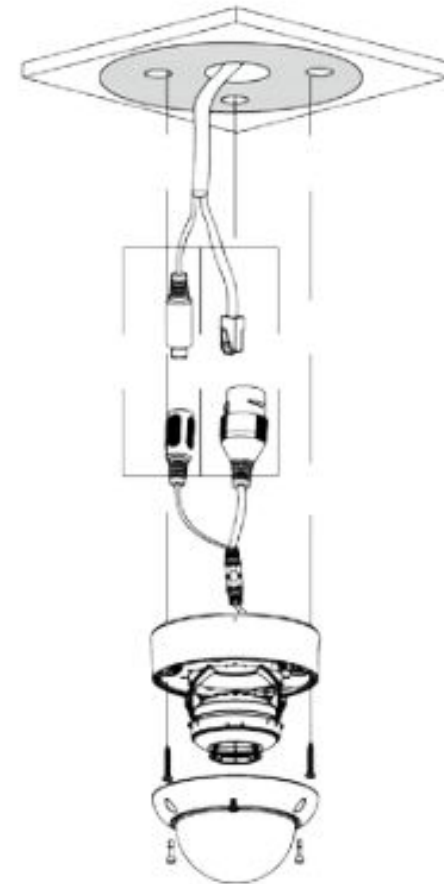

Figure 2-3
Step 3 If using mounting surface cable exit, connect the appropriate cables then thread the pigtail through the cable exit. Thread in and install the mounting screws to the expansion bolts. See Figure 2-3.